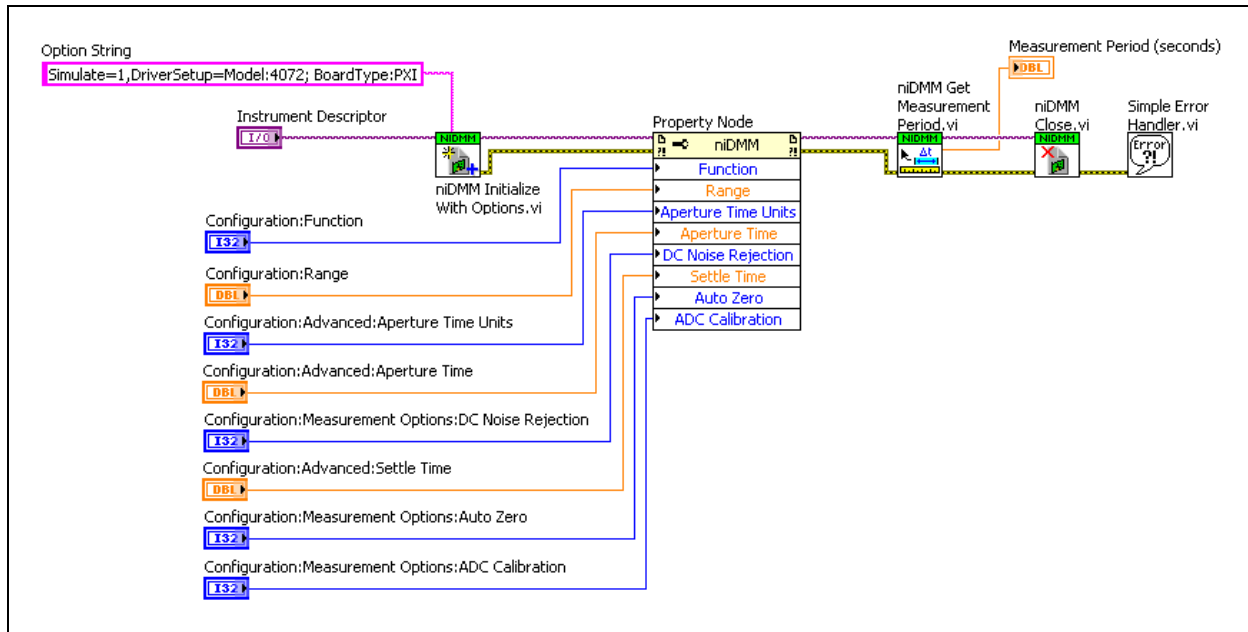

Figure 3-4. Advanced Single Point Benchmark VI Block Diagram
5. Modify the block diagram to use a property node to configure the measurement, as shown in Figure 3-4.
- Expand the node to display eight different options, as shown in Figure 3-4.